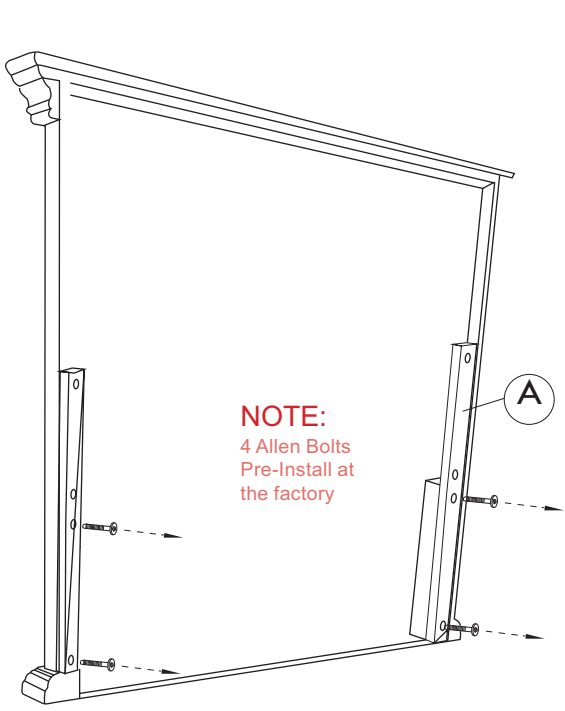

Fig. 1
- I.-UNSCREW THE MIRROR BRACKETS (A) AS SHOWN IN Fig. 1
- 1.- ATTACH THE CROSS BRACE (A) IN THE HOLE OF THE BASE (B) AS SHOWN IN FIG. 1.